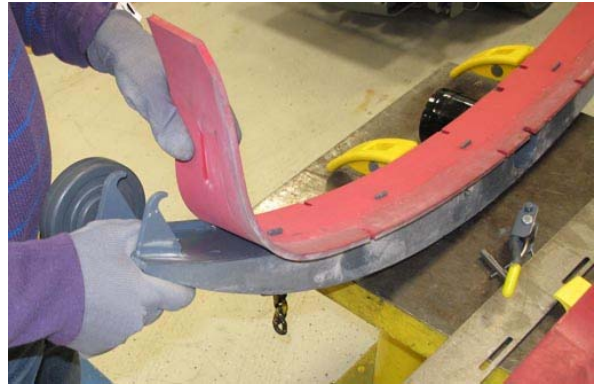

FIG. 10
8. Remove the front squeegee from the squeegee assembly. Set the front squeegee aside. Discard the rear squeegee assembly. (Fig. 10)